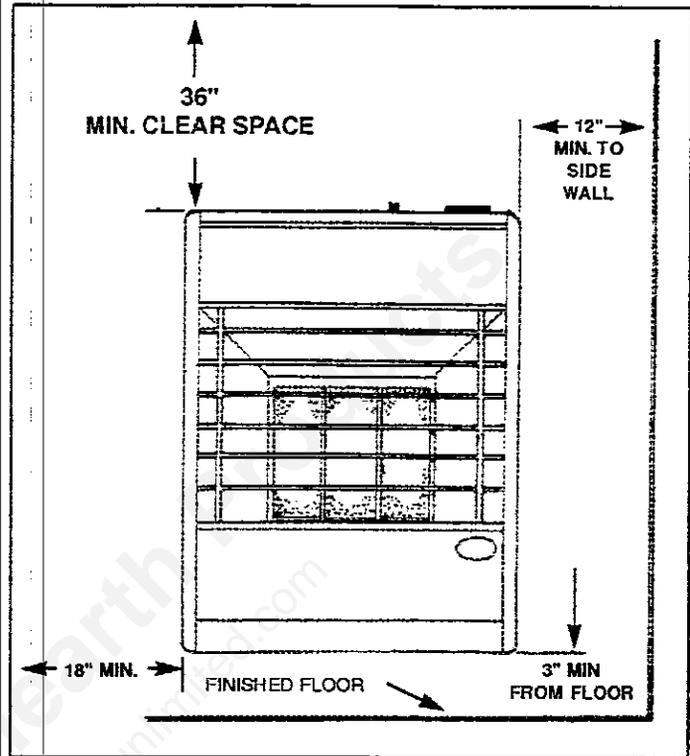

FIG. 1
6. To prevent fires always keep at least 36 inches from the top of the heater to anything that can catch fire. When installed on the wall, keep at least 3 inches from the top surface of carpeting, tile etc. to bottom of heater. Keep at least 12 inches from side of heater to side wall. When installed free standing, be sure optional base is attached to heater. See Fig. 1 & 2 for additional information. Do not place the heater in any space where air cannot circulate around the heater.
2. Select location for heater and proceed with connection to gas piping. Refer to Fig. 1&2 for minimum clearances to combustibles.
Make sure the location gives 12" inches of clear space between the heater side and the wall. Make sure that nothing is closer than three feet to the top of the heater. See Fig. 1